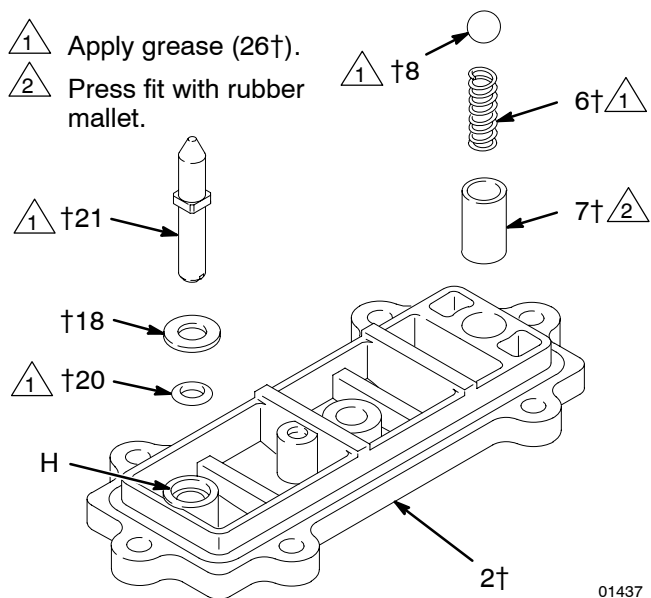

Fig. 7
1. If the detent collar (7) was removed, carefully install a new collar in a new cover (2), using a rubber mallet. See Fig. 7.
2. Grease the spring (6) and place it in the collar (7). Grease the ball (8) and set it on the spring.
3. Grease the o-ring (20) and install it in the hole (H) in the cover (2). See Fig. 7. Slide the washer (18) onto the blunt end of the reset shaft (21). Insert the shaft through the cover (2) until it seats.
4. Grease the spring (3). Place the link stop (4) inside the spring.